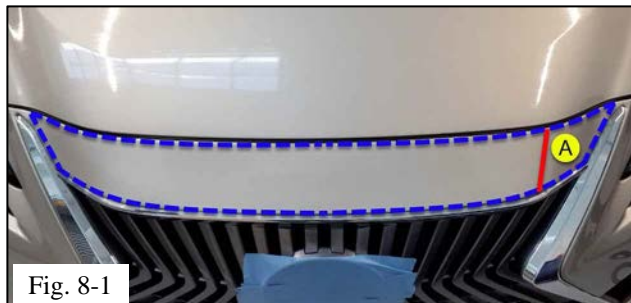

Fig. 8-1
- (a) Align the material at the outer corner so that the upper and lower edges are within the proper tolerance. Remove the solution from underneath the material with the squeegee so that it is secure (Fig. 8-1).